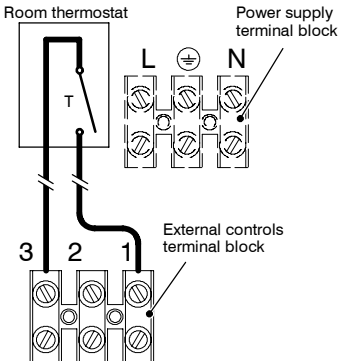

Fig. 6.17
- 8 Connect the room thermostat between terminals 1 and 3 as shown in Fig. 6.17.